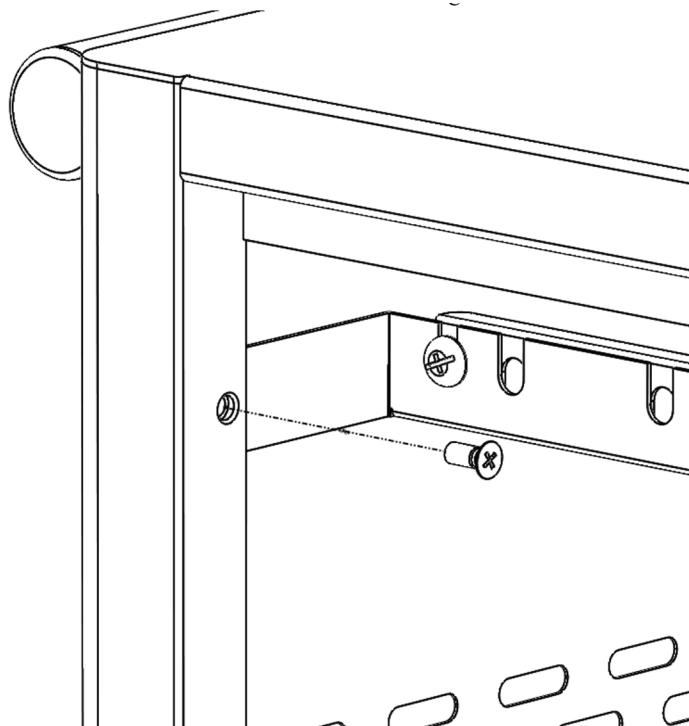

Figure 4-4. Aligning the threaded insert.
2. Align the threaded insert in the Front Cable Manager with the countersunk holes in the cart side panels, as shown in Figure 4-4.